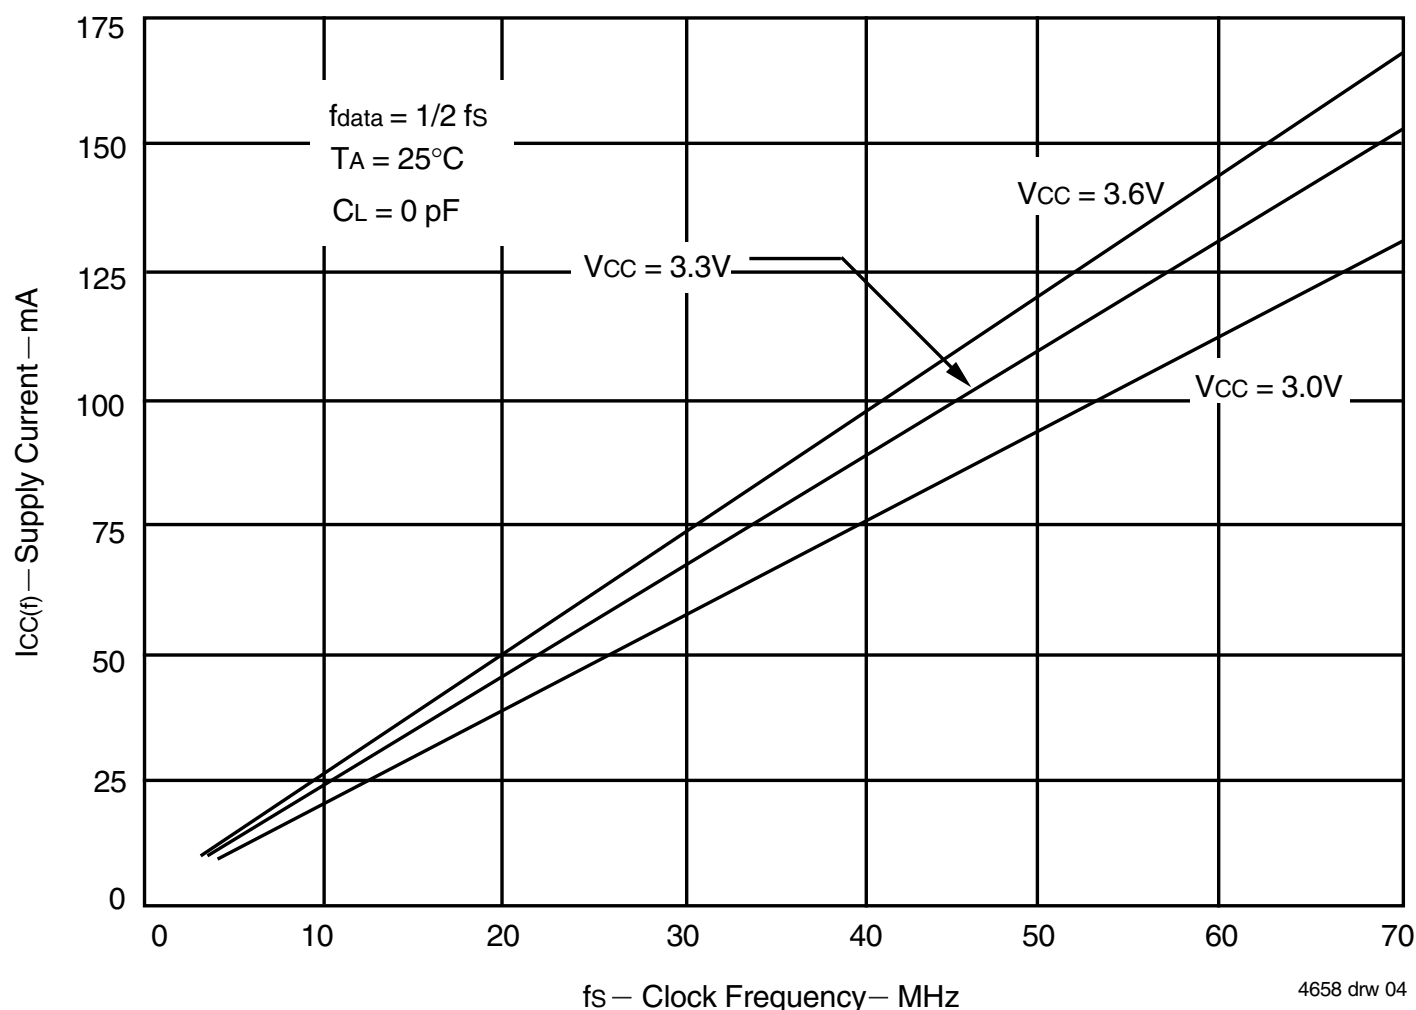

Figure 1. Typical Characteristics: Supply Current ( $I_{CC}$ ) vs. Clock Frequency ( $f_s$ )
- For additional ICC information, see Figure 1, *Typical Characteristics: Supply Current (ICC) vs. Clock Frequency (fs)*.
The  $I_{CC}(f)$  current for the graph in Figure 1 was taken while simultaneously reading and writing the FIFO on the 72V3641 with CLKA and CLKB set to  $f_s$ . All data inputs and data outputs change state during each clock cycle to consume the highest supply current. Data outputs were disconnected to normalize the graph to a zero-capacitance load. Once the capacitance load per data-output channel and the number of 72V3631/72V3641 inputs driven by TTL HIGH levels are known, the power dissipation can be calculated with the equation below.
With  $I_{CC}(f)$  taken from Figure 1, the maximum power dissipation (PT) of these FIFOs may be calculated by: